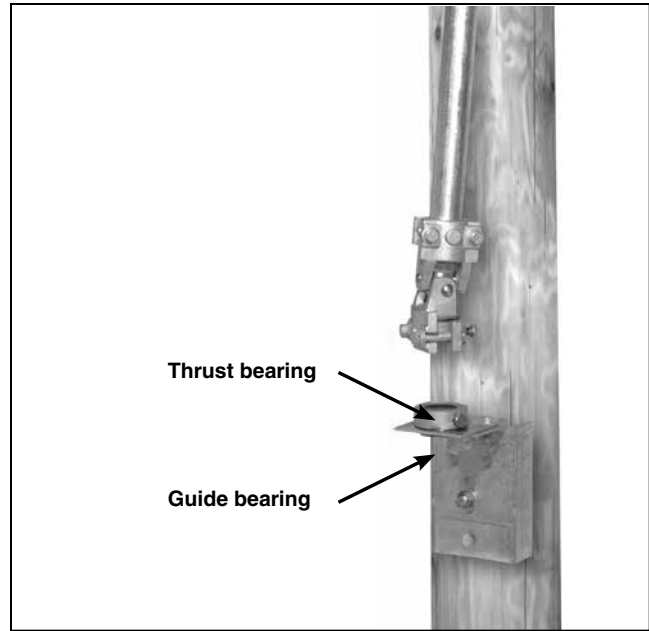

Figure 17. Install the guide bearing.
STEP 15. Position and install the guide bearing assembly on the pole in accordance with the dimension shown on the erection drawing. See Figure 17.